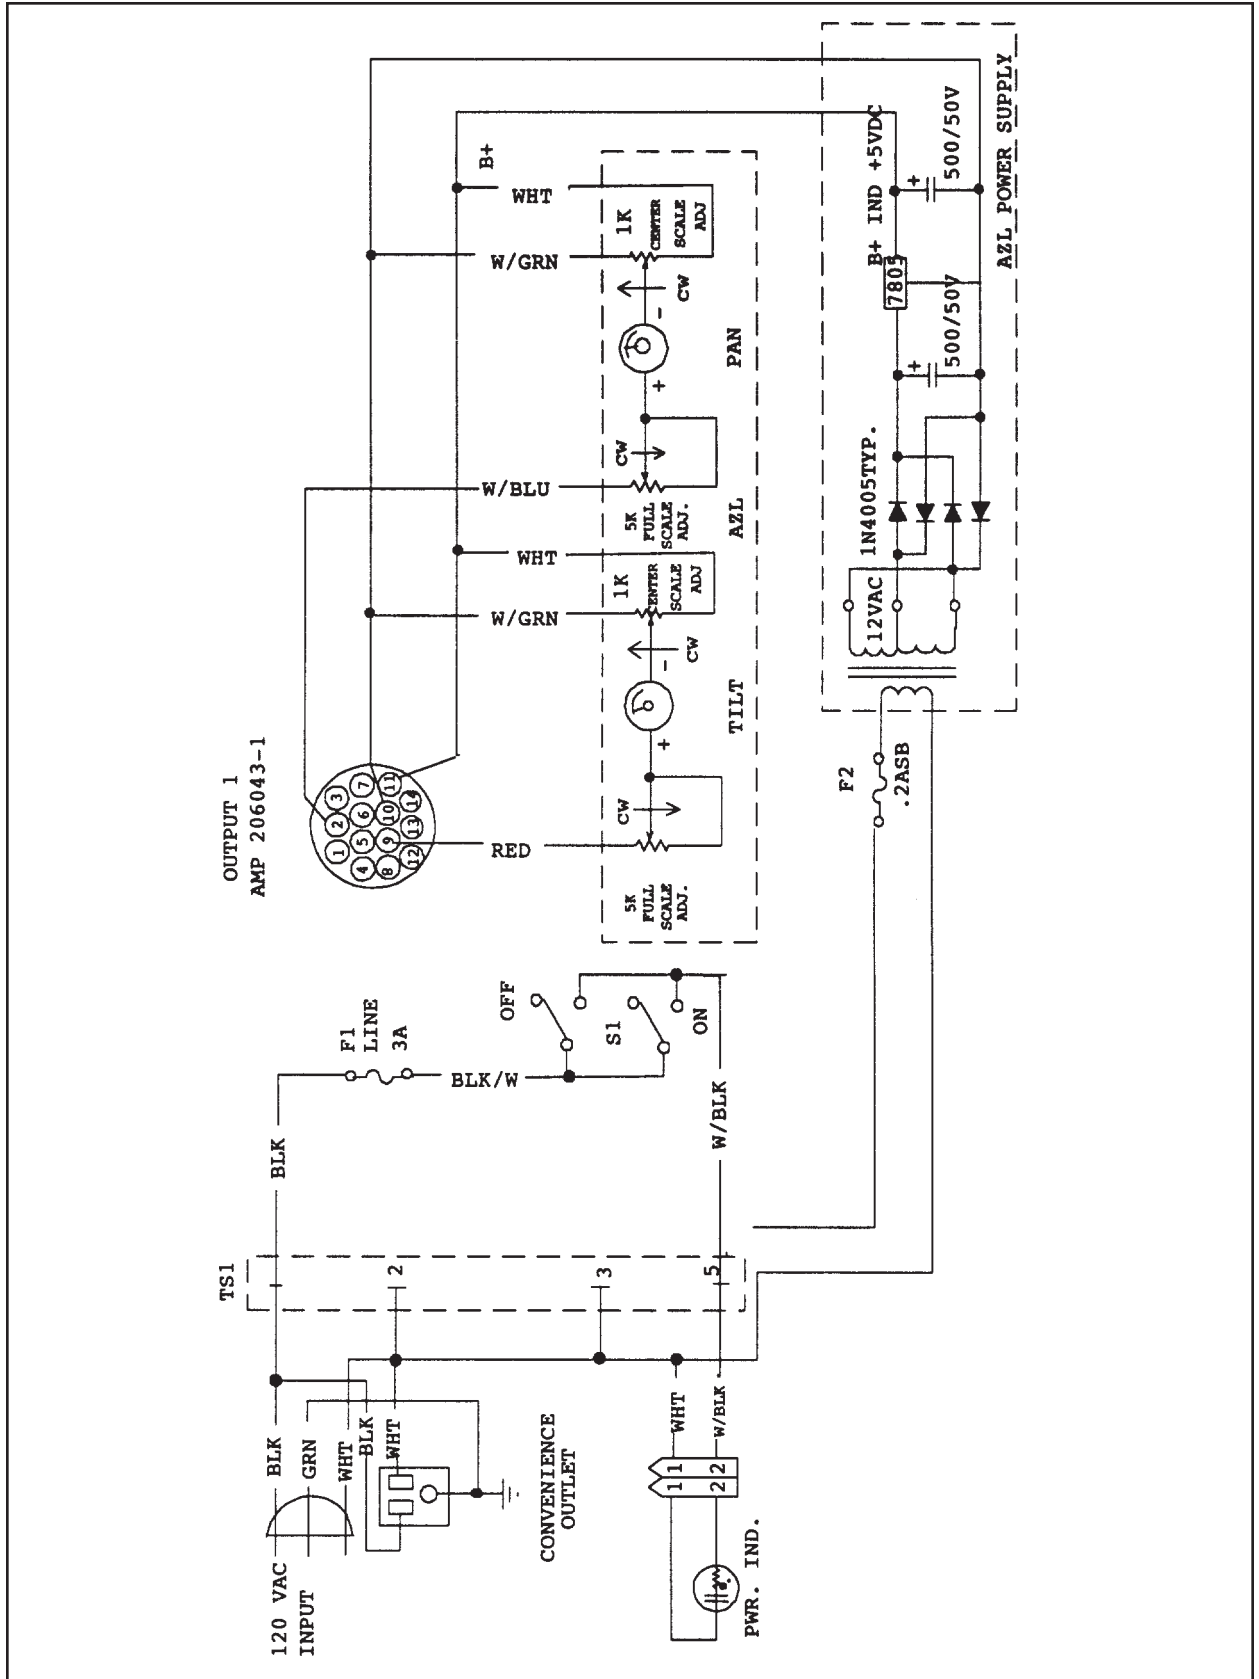
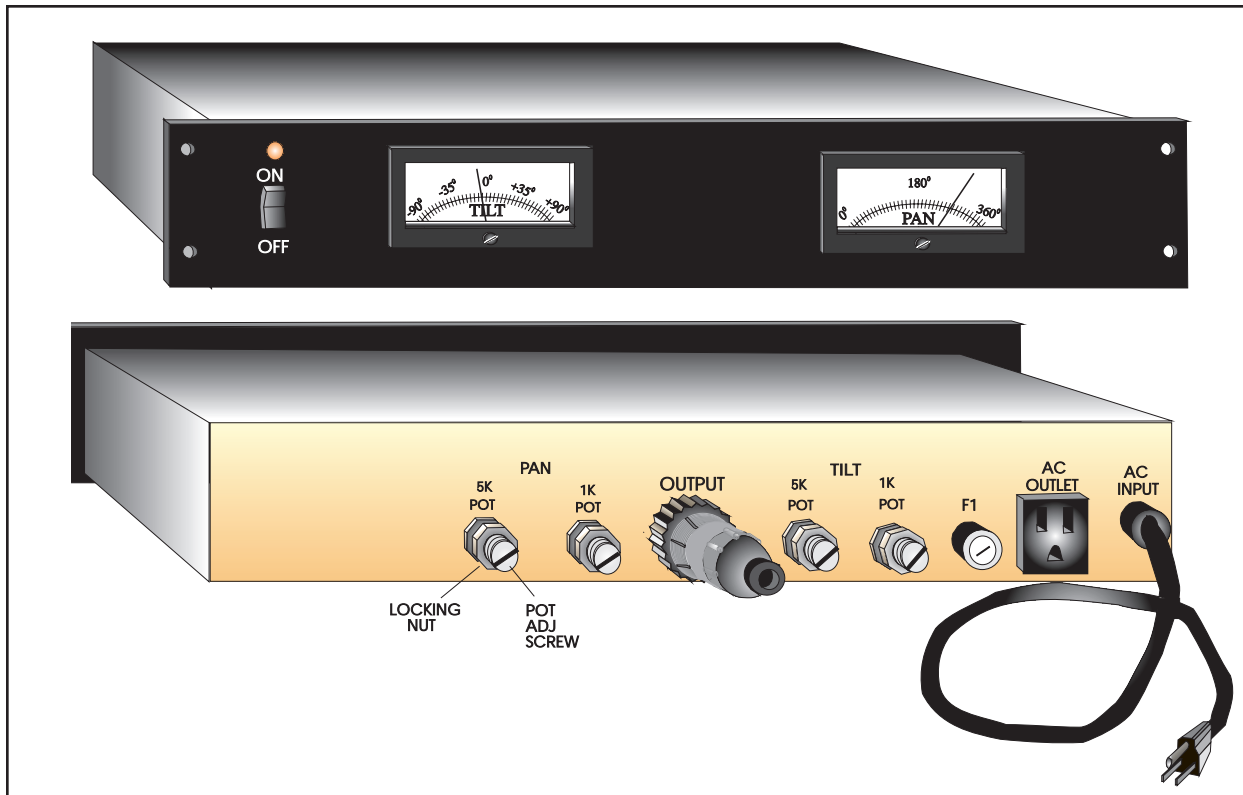

Figure 2. AZL Wiring Diagram
Figure 3. AZL Front and Rear Views
Reference Figure 2 and Figure 3. Before connecting the wiring, set the meter module "full scale" adjustment pots (these are the 5K pots) on the back of the AZL unit at the full CW (clockwise) position and set the "center scale" adjustment potentiometers (these are the 1K pots) on the back of the AZL unit at approximately center.
Now, reference the AZL wiring diagram in Figure 2. The wiring for connector pins 2 and 9 go to the "pan feedback" and "tilt feedback lines", respectively, on the P/T, which, in the case of a PT1250DC/PP, share corresponding numbered pinouts. For the rest of the AZL wiring, we have pin 10 - which is AZL common - that is wired to feedback common (pin 10) on the P/T and pin 11 (AZL B+, +5VDC) that is wired to "feedback B+" on the P/T. We assume, of course, that any other additional wiring needed for the system in question has already been done or is also being done at this time (controller wiring, for example). Once the wiring interface is in place, the next thing to consider is AZL meter adjustment.
Figure 3 is a diagram of the internal wiring (minus power supplies, etc.) of that part of the AZL unit related to meter adjustment. Shown there are the full and center scale pots for pan and tilt on the AZL as they would be wired to the respective position feedback pots on a Pelco P/T1250DC/PP. Interconnections between the two units
4. These two meter readings define the "deflection range" of the meter (in our case $330^\circ - 60^\circ = 270^\circ$, see Fig. 5c) and mirrors mechanical pan movement of the P/T between its extremes. This "range" must now be shifted (in our case, to the left) by adjusting the "center scale potentiometer" (PAN 1K pot, see Fig. 3) on the AZL back-panel to obtain a balanced meter deflection at both ends. The simplest method of calculating what the balanced meter deflection should be at both ends is to subtract the "deflection range" from the total meter range and divide by 2.
In other words, the entire range should be shifted to the left enough so that the difference between the deflection range reading made at the PAN LEFT operation and 0° and the difference between the PAN RIGHT operation and 360° are equal and have a value of 45°. In our example, then, we require the PAN RIGHT meter reading to be $(360^\circ - 45^\circ)$, or 315°. The current meter reading is at 330°, so you must now adjust the "center scale pot" (PAN 1K pot, see Fig. 3) until you obtain a meter reading of 315°. This shifts or "rotates" the entire deflection range for a balanced meter deflection at both ends as indicated in Figure 5d.
5. Now adjust the "full scale potentiometer" (PAN 5K Pot, see Fig. 3) on the back of the AZL unit to obtain a reading of 360°.